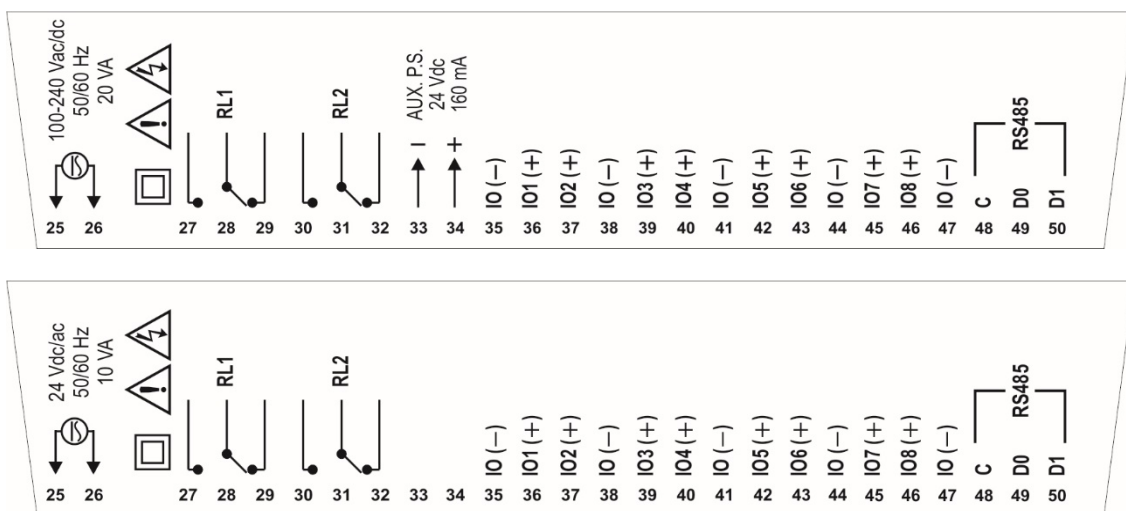
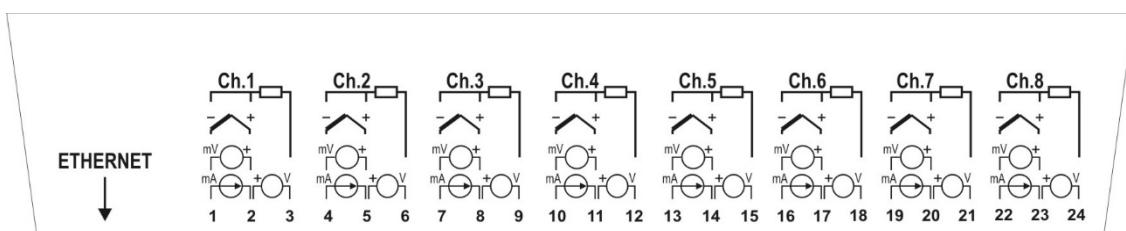

Figure 13 Upper side connections for standard and 24 V models
Figure 14 Lower side connections
**FieldLogger** has two rows of terminals for diverse connections; among them are the following items: Ethernet, input connections, power supply, output relays, auxiliary power supply output, digital inputs, and serial communication. This information is identified in the box of **FieldLogger** according to **Figure 13** and **Figure 14**: